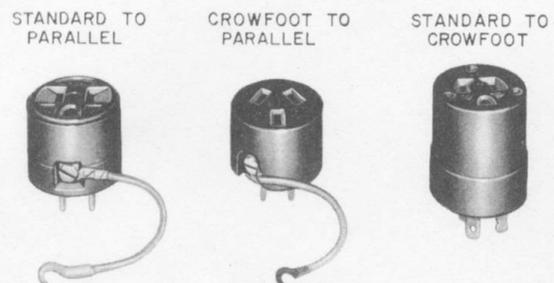
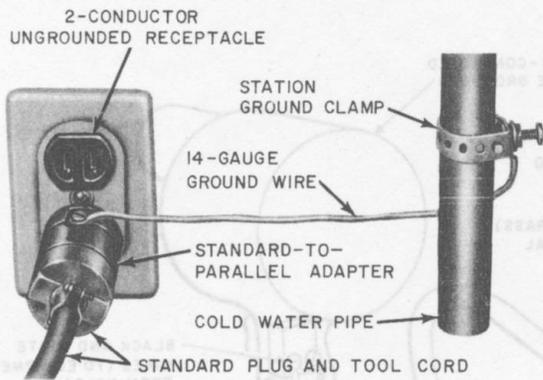

Fig. 1—Adapters
Fig. 2—Ungrounded 2-Conductor Receptacle
3.04 The pigtail grounding terminal on adapters (Fig. 1) or attachment plugs should be connected to a suitable conductor. As shown in Fig. 2, 14-gauge ground wire or the B or C grounding cord will be satisfactory.
- Attach ground wire to ground terminal on plug or adapter and to the grounded object selected, making certain a good metallic connection at both ends is accomplished (see Fig. 2).